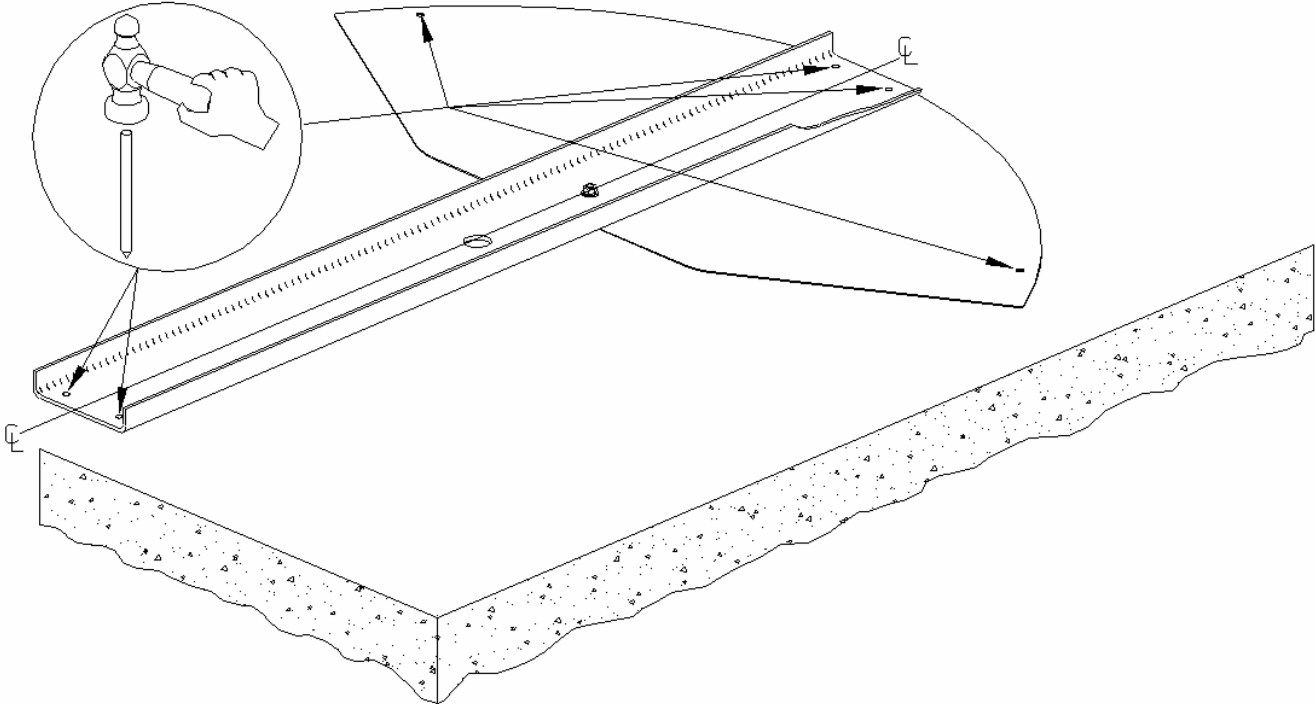

Figure 3
- 5. Making sure the assembly is held in place, mark location for six anchor stud holes using 1/2" center punch, two holes at barrier post end, two holes for center shield post end, two holes at left shield post and two holes at right shield post. See Figure 3.